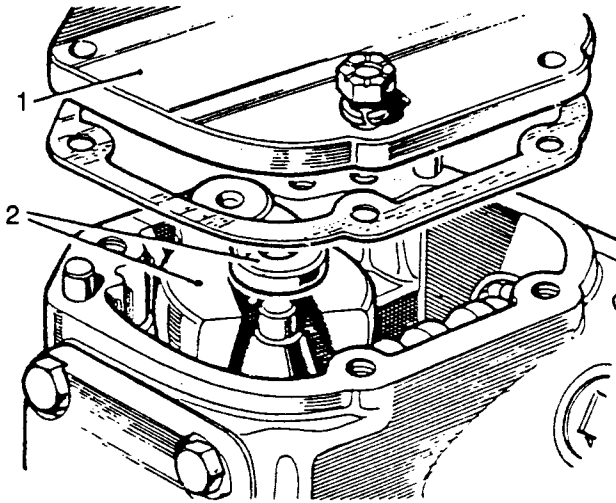

Fig L5.1
(2) Refer to Fig L5.1. Remove the side cover (1) and drain the oil from the steering box.
(3) Lift out the roller for the main nut and withdraw the rocker shaft (2).